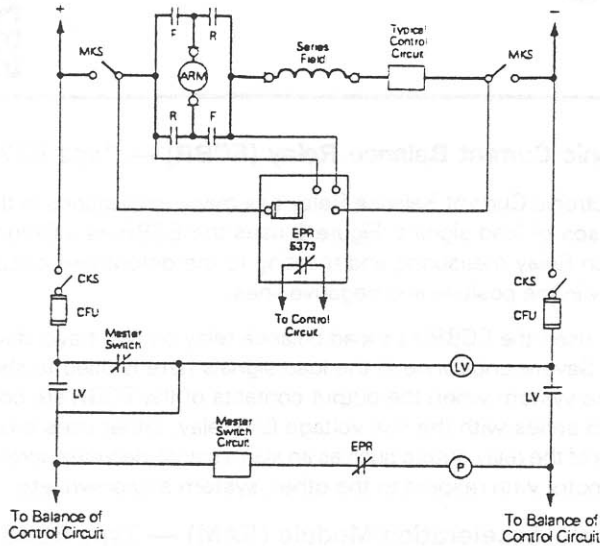

Figure 4 – Type 5372
Figure 4 used the ECBR as a load balance relay on two travel drive motors. Severe unbalance in the load signals here is used to shut down the system when the output contacts of the ECBR are connected in series with the low voltage (LV) relay. Other uses could be made of the relay output such as an alarm signal, decrease torque of one motor with respect to the other, system shutdown, etc.